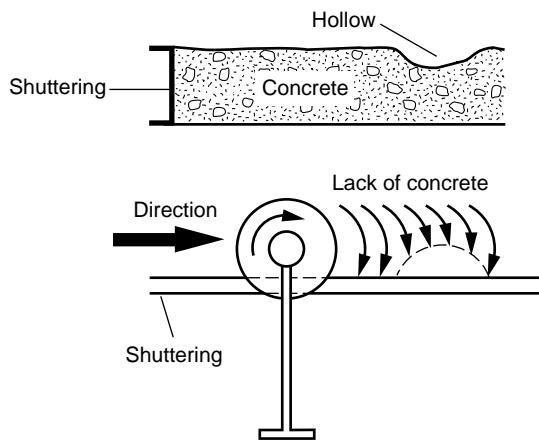
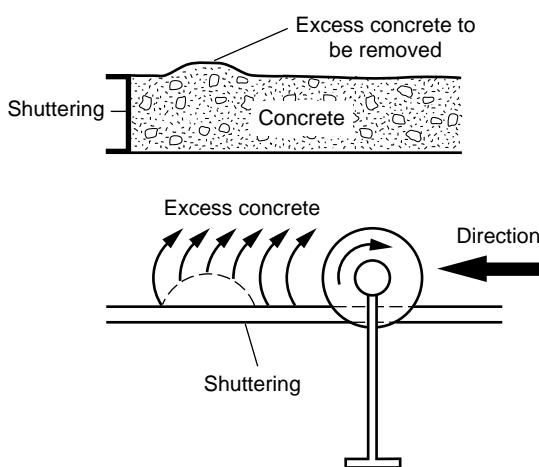

FIG. 6
FIG. 7
- Surface defects can also require the work plan to be changed. Hollows and humps which remain after laying can be corrected during the preliminary pass. Fill holes by turning round them clockwise [SEE FIG. 6]. For humps, turn anti-clockwise [SEE FIG. 7].